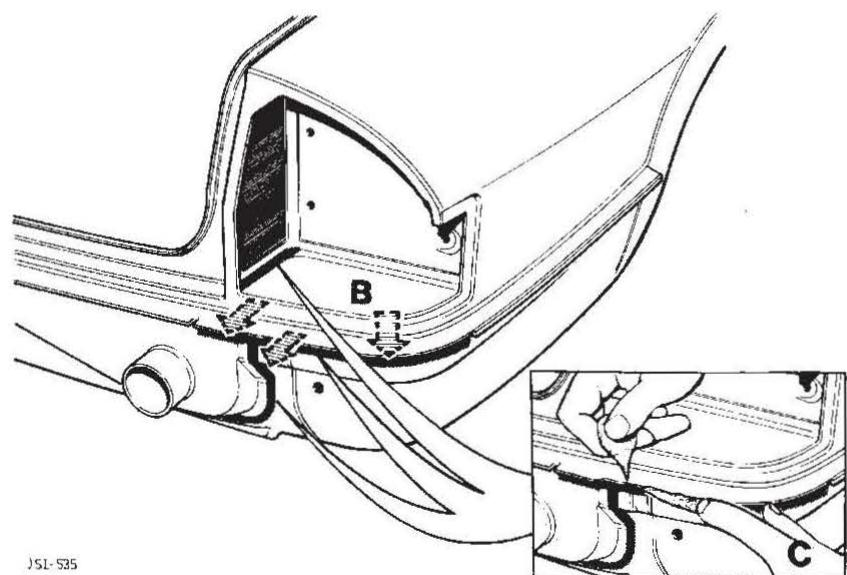

FIG 4
- b) Seal seams at inside with 3m Drip-Chek Regular, Fig 4.
- c) Seal seams at outside with body caulking compound, Fig 4.